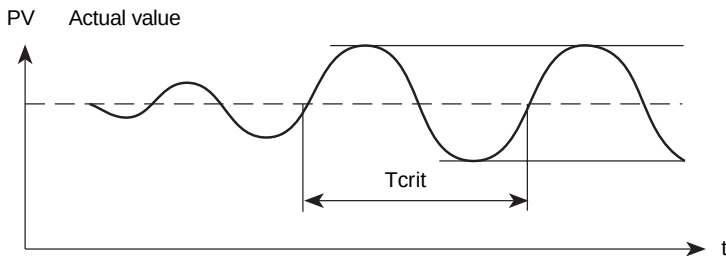

Figure 44: Progression of the control variable at the stability limit
- Increase K_p until the controlled variable oscillates continuously without attenuation (Figure 44).